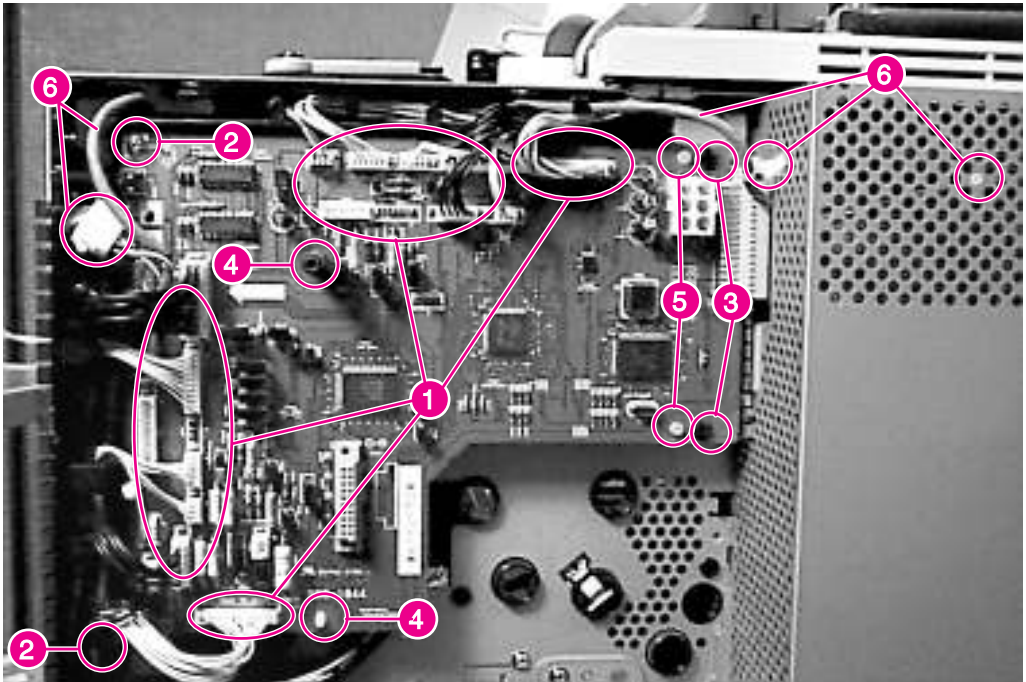

Figure 6-41 DC Controller PCA
- 4 Unplug 19 connectors from the PCA (figure 6-41, callout 1).
- 5 Remove 2 screws (figure 6-41, callout 2) from the left side of the PCA and 2 self-tapping screws (figure 6-41, callout 3) from the right side of the PCA.
- 6 Release two retaining clips (figure 6-41, callout 4) and carefully tip the left side of the PCA outward to clear the Formatter PCA connector from the card cage.
Make sure the retaining clip posts (figure 6-41, callout 4) and the two locator pins (figure 6-41, callout 5) are properly aligned.
- DC Controller PCA (see figure 6-41)